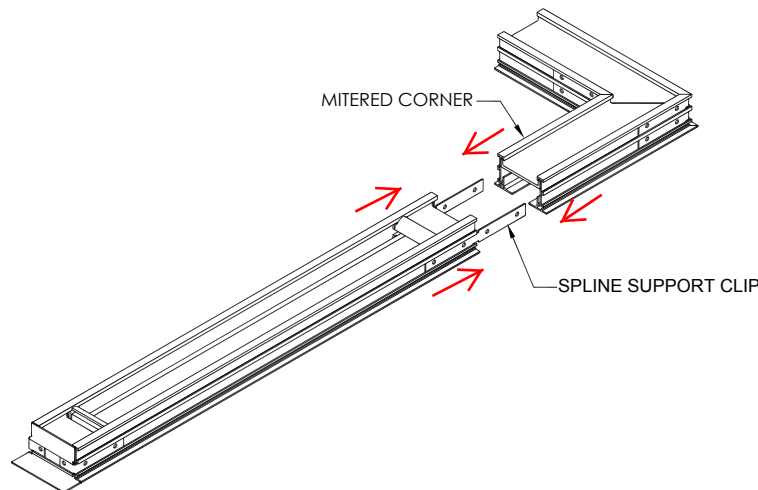

Figure 6. Connecting segments
- If multiple sections of DesignFlo are required, repeat previous step by lifting additional sections into the ceiling opening. Be sure to insert Spline Support Clips (SS clips) into the DesignFlo butt-cut ends to ensure a tight and aligned connection as shown in Figure 6.